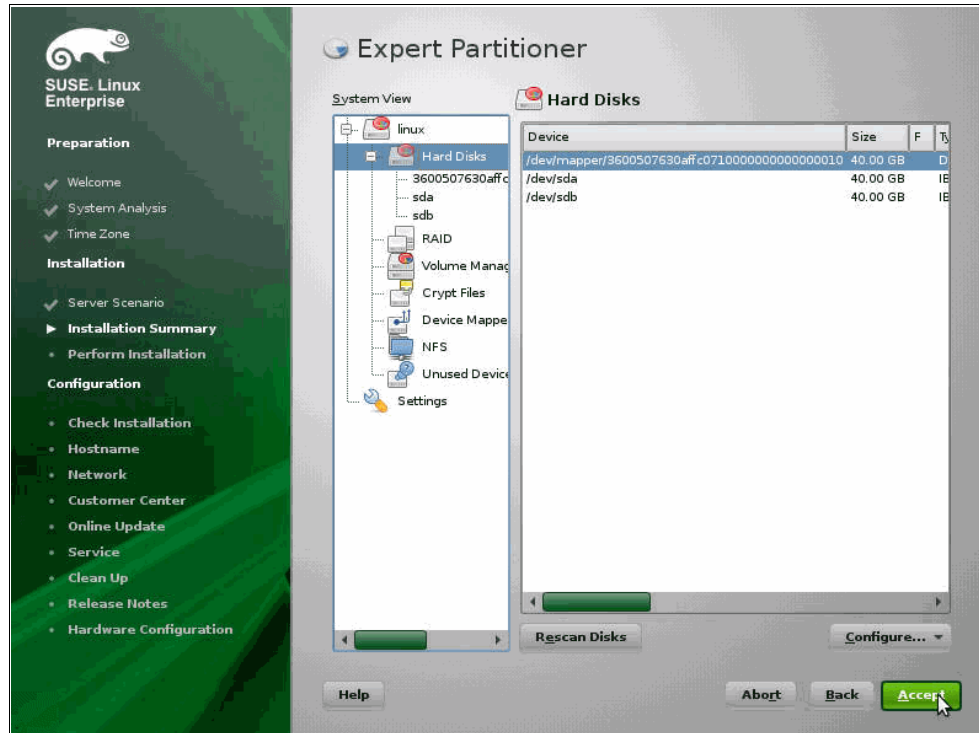
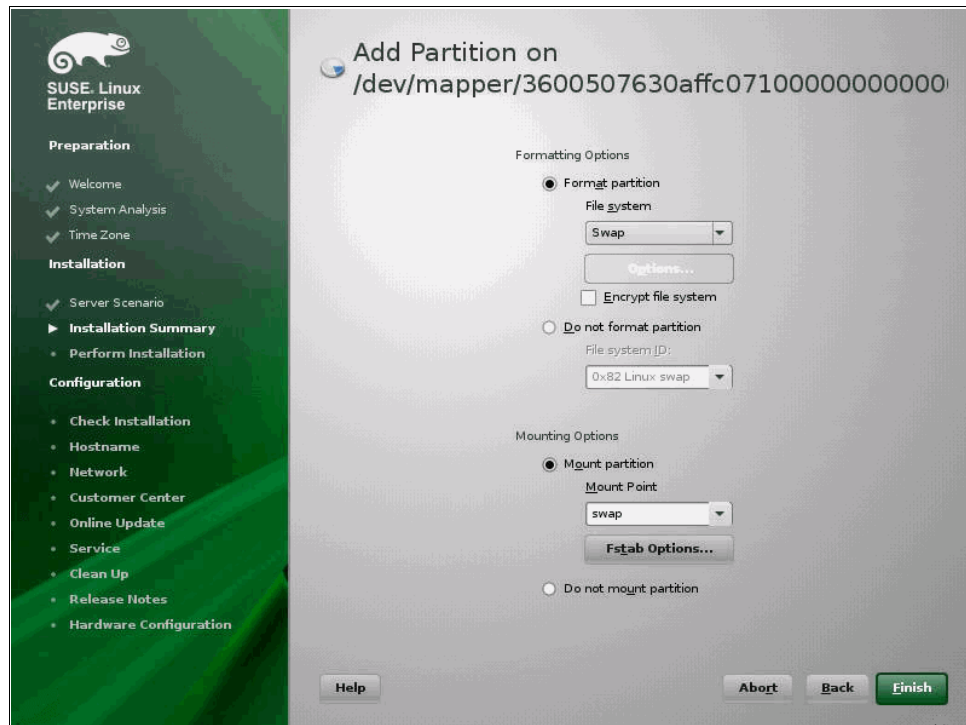
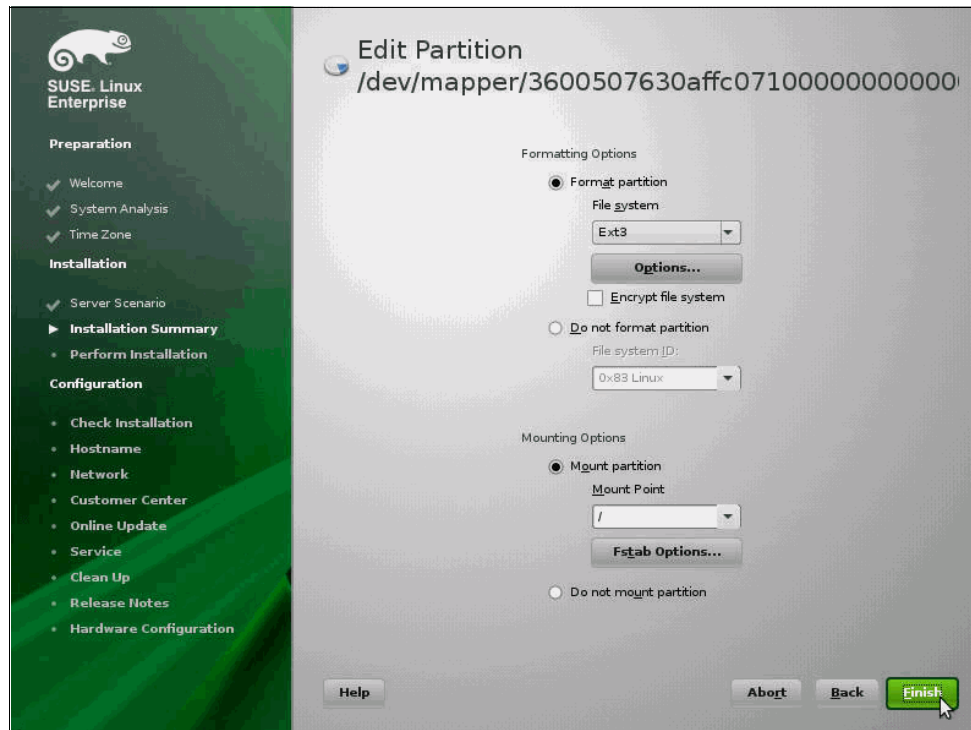
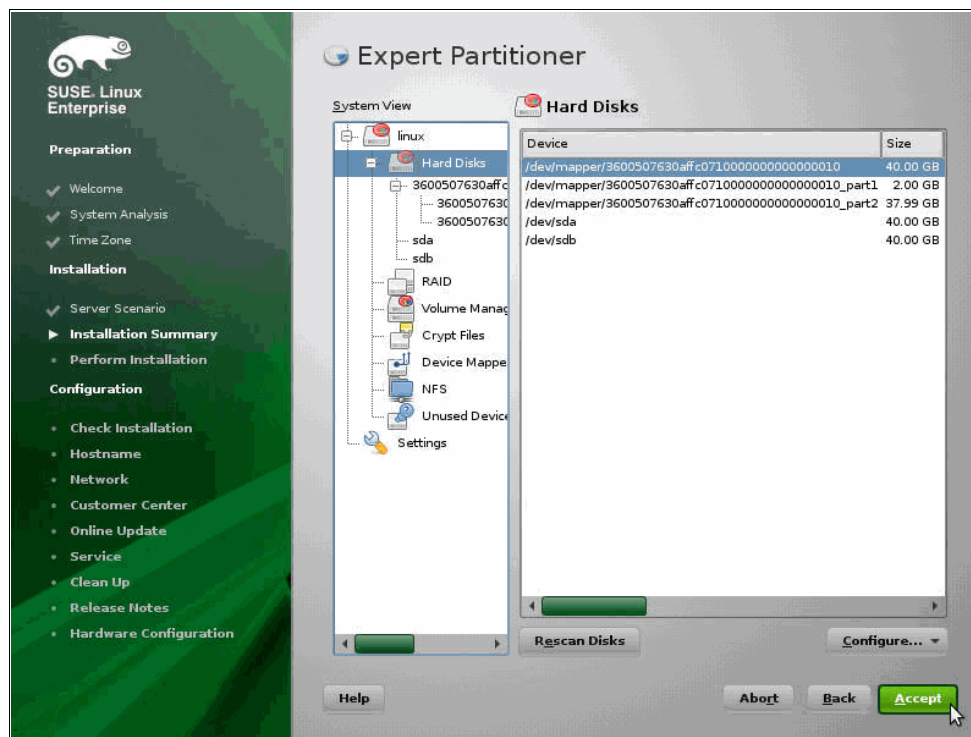

Figure 3-60 Multipath LUN created
Figure 3-61 Creating SWAP partition
Figure 3-62 Creating root partition
Figure 3-63 Accepting partitions to install
16. This process automatically creates the multipath disk that will be used to create the SWAP partition and the Root partition. You can change the partition here or you can use the standard as shown in Figure 3-60, Figure 3-61, Figure 3-62, and Figure 3-63.